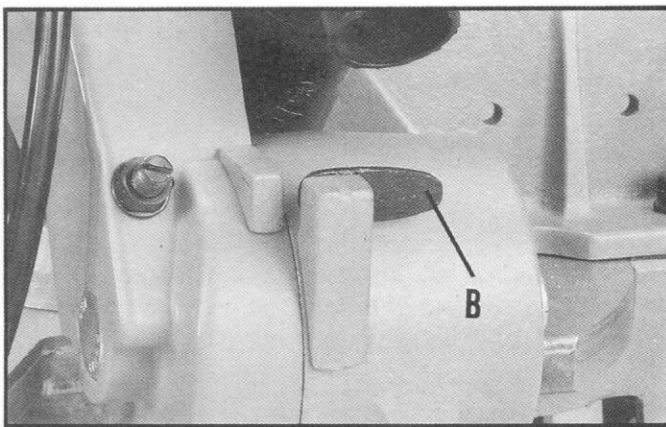

Fig. 3
2. To move the cuttinghead to the up position, release lock lever (B) Fig. 3.